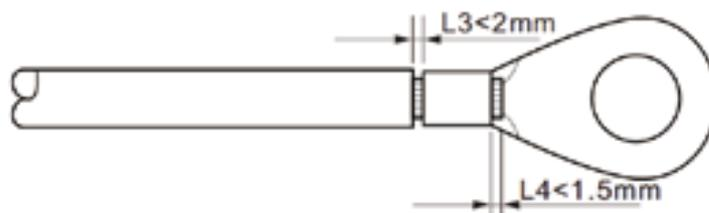

Figure 5-3 Grounding connection instruction (2)
Step 2: Insert the exposed core wires into the OT terminal and crimp them by using a crimping tool, as shown as figure 5.3. Recommend using OT terminal: OT M6, Cable: $\geq 16\text{mm}^2$.